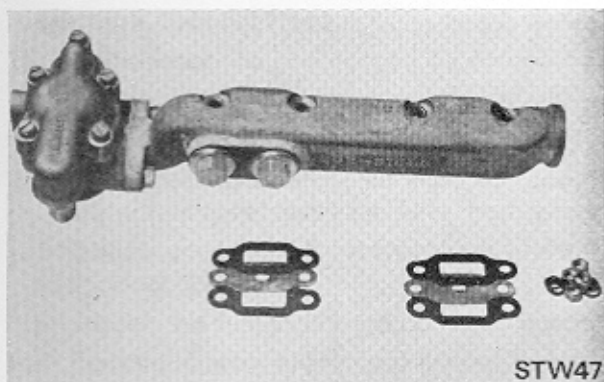

Fig. 68. Water Outlet Manifold with Thermostat
**Water Outlet Manifold (Fig. 68)**